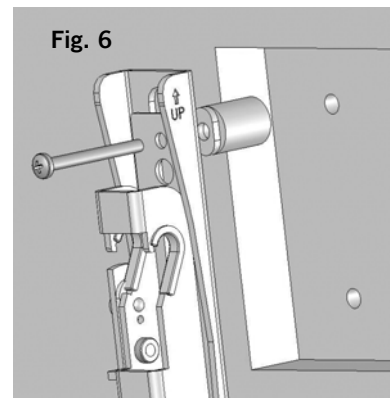

Fig. 6
Some displays have recessed mounting lands which will require the use of a spacer. For these displays, install the 3/4" Round Spacer (M) between the display and the rail. (Fig. 6). **Note:** Align tab in spacer with slot in mounting rail.